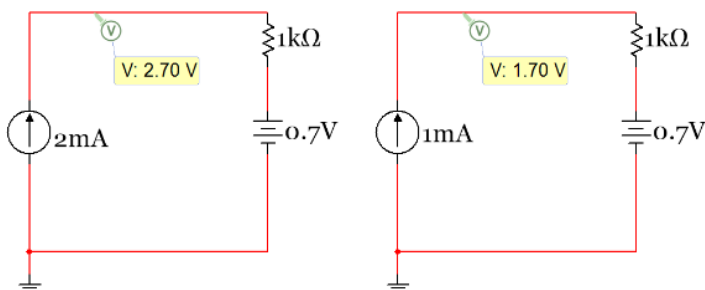
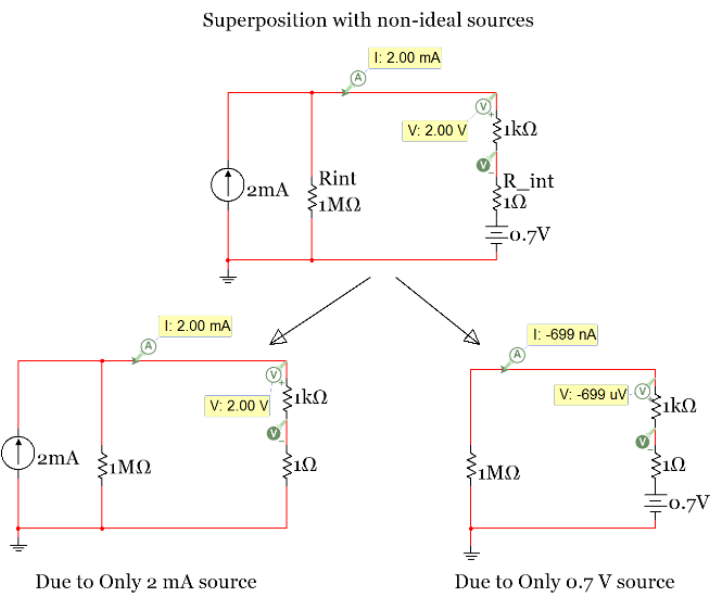
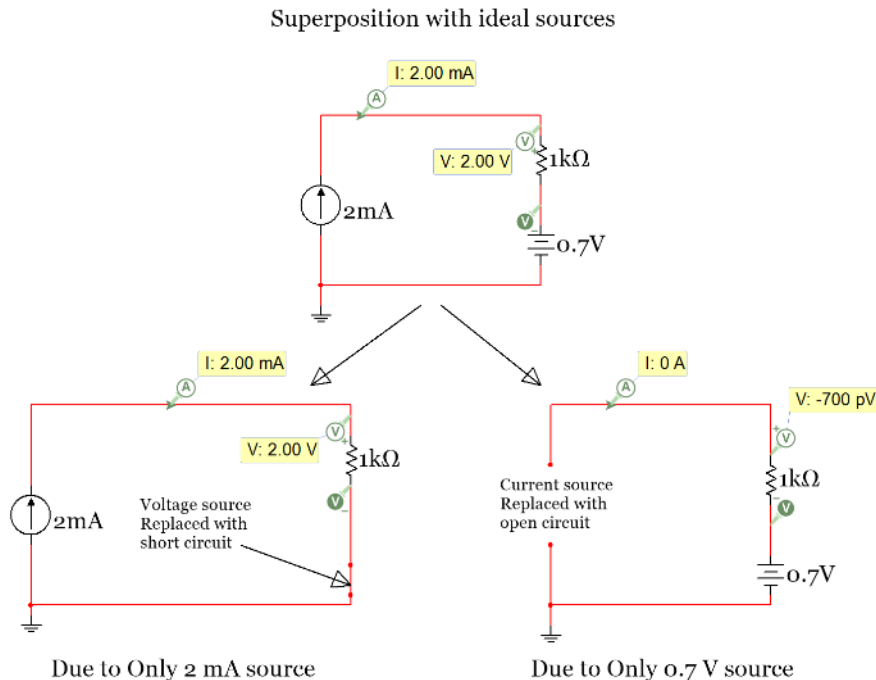

Figure 2.32: Example of a linear system - Circuit with a resistor and a diode that is replaced with a battery.
Figure 2.33: Example of Superposition with Non-Ideal Sources - The 0.7 V battery has a negligible effect
Figure 2.34: Example of Superposition with Ideal Sources
using Newton's 2nd Law all of the forces acting on the mechanical body result in the body having a net acceleration. If the system is linear then superposition can be used where the acceleration due to each individual force is calculated one at a time. All of the individual accelerations could then be added together and the resulting total acceleration that results would be the same as solving the system all in one step with all forces in the same calculation. This same process can also be used for independent sources in electrical linear systems. The only thing that complicates the superposition procedure for linear circuits is what to do with the "other sources" that are physically connected to the circuit as you solve the circuit one source at a time. If the sources are **not ideal** then the "other sources" are replaced with their internal resistance. Recall in Figure 1.3 of Module 1 that a non-ideal voltage source is modeled as a battery in series with a small resistor. This small resistor (called R_{int}) is the internal resistance. A non-ideal current source is modeled as a large resistor in parallel with the current source. If the sources of the circuit in Figure 2.32 are replaced with a non-ideal current source with internal resistance of $1\text{ M}\Omega$ for the current source and $1\ \Omega$ in series to transform the ideal voltage source to a non-ideal voltage source, the results are shown in the top circuit in Figure 2.33. The voltage across the $1\text{ k}\Omega$ resistor is approximately 2 V , which is the same value as obtained in the circuit in Figure 2.32 with ideal sources. The value is approximately the same because the values of R_{int} in this case for the current and voltage sources have minimal effect on the circuit.
For sub-problem 1 (on the left side of Figure 2.33) the voltage source must be "zeroed out" and for sub-problem 2 (on the right side of Figure 2.33) the current source must be "zeroed out" so that only the internal resistance remains for both. To zero out an independent source the following is done:
The **magnitude** of the voltage and current of the 1 kΩ resistor in the bottom-left circuit in Figure 2.33 due to only the 2 mA current source (sub-problem 1) can be calculated as follows:
- $I_{1k\Omega_1} = \mathbf{2\text{ mA}}$ because the source forces 2mA through the loop (verified by Multisim in Figure 2.33).
- $V_{1k\Omega_1} = I_{1k\Omega_1} \cdot 1\text{ k}\Omega = 2\text{ mA} \cdot 1\text{ k}\Omega = \mathbf{2\text{ V}}$ (as verified by Multisim in Figure 2.33).
In this example the 0.7 V has very little effect on current or voltage through the 1 kΩ resistor since there is a 1 MΩ resistance in the circuit. The **magnitude** of the voltage and current of the 1 kΩ resistor in the bottom-right circuit in Figure 2.33 Due to only the 0.7 V voltage source (sub-problem 2) can be calculated as follows:
- $I_{1k\Omega_2} = (0.7\text{ V}) / (1\text{ M}\Omega + 1\text{ k}\Omega + 1\text{ }\Omega) = 6.99\text{E-}7\text{ A}$ or **699 nA** (as verified by Multisim in Figure 2.33).
- $V_{1k\Omega_2} = I_{1k\Omega_2} \cdot 1\text{ k}\Omega = 699\text{ nA} \cdot 1\text{ k}\Omega = 6.99\text{ E-}4$ or **699 μV** (as verified by Multisim in Figure 2.33).
- $I_{1k\Omega} = I_{1k\Omega_1} + I_{1k\Omega_2} = 2\text{ mA} - 699\text{ nA} = \mathbf{1.9993\text{ mA}}$ (rounded to 2 mA in Multisim, top circuit in Fig 2.33)
- $V_{1k\Omega} = V_{1k\Omega_1} + V_{1k\Omega_2} = 2\text{ V} - 699\text{ }\mu\text{V} = \mathbf{1.9993\text{ V}}$ (rounded to 2 V in Multisim, top circuit in Fig 2.33)
In this course we will only deal with ideal independent sources so the internal resistance doesn't have to be included. For ideal voltage sources the internal resistance is zero (replace R_{int} in Figure 2.33 with a short circuit) and for ideal current sources the internal resistance is infinity (replace R_{int} in Figure 2.33 with an open circuit). If the sources in the circuit in Figure 2.33 are **ideal** then Figure 2.34 shows how the circuit would look and how the circuits for the 2 sub-problems would look.
- $I_{1k\Omega} = I_{1k\Omega_1} + I_{1k\Omega_2} = 2 \text{ mA} - 0 \text{ A} = \mathbf{2.0 \text{ mA}}$ (Matches top circuit in Fig 2.34)
- $V_{1k\Omega} = V_{1k\Omega_1} + V_{1k\Omega_2} = 2 \text{ V} - 0 \text{ V} = \mathbf{2.0 \text{ V}}$ (Matches top circuit in Fig 2.34)